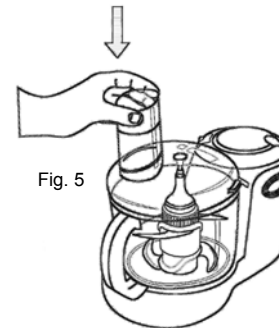
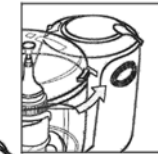

Fig. 5
Fig. 6
- Then holding the processor lid by the feeding tube, place the processor lid onto the bowl and turn counter clockwise to lock the lid in place. Ensure that the lid tab has "clicked" into place and that the arrow on the lid is aligned with the dot on the unit. (Fig. 5 & Fig. 6)